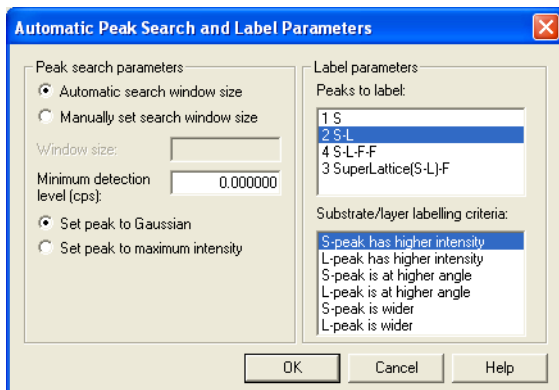
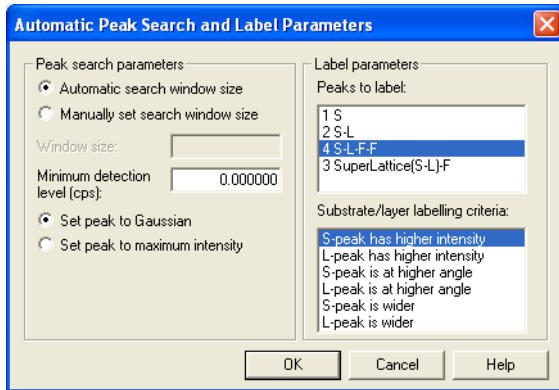

Figure 4-6: The Peak Parameters for the InP_Q Sample
Figure 4-12: Automatic Peak Marking for Thickness Results
- In the “Label Parameters” frame change the “Peaks to label” to “2 S-L” - see Figure 4-6.
If your measured files include thickness fringes you can mark these automatically and the layer thickness will be calculated in the results file. To do this proceed as in section 4.3 except that the Automatic Peak Search and Label Parameters should be set as shown in Figure 4-12 instead of as in Figure 4-6 - you may need to change the “Substrate/layer labelling criteria” to apply to your sample.